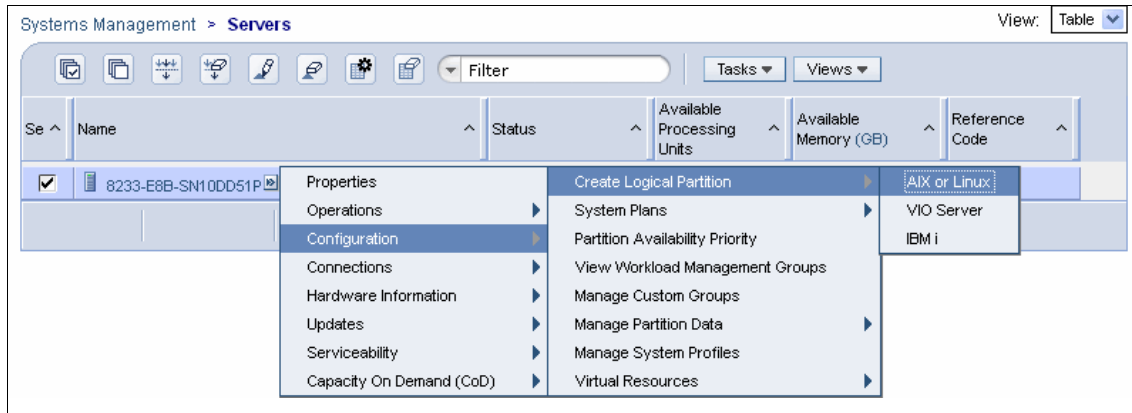

Figure 4-24 Create Virtual I/O Server LPAR
3. From **Task**, select **Configuration** → **Create Logical Partition** → **AIX or Linux**, as shown in Figure 4-24.